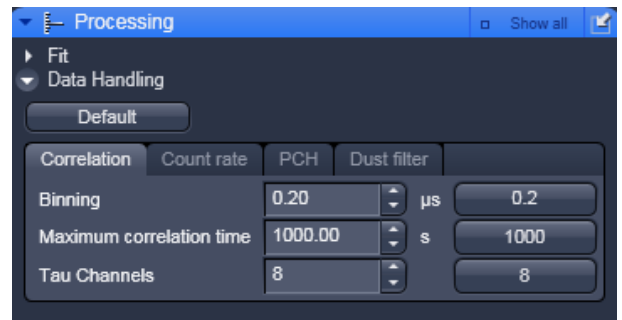

Fig. 53 Data Handling panel
- Click on the Data handling bar to open the Data handling panel (Fig. 53). Click again to close the panel.
- Click on the **Correlation** register (see Fig. 53) to open the **Correlation** panel. Click any other register to leave the panel.